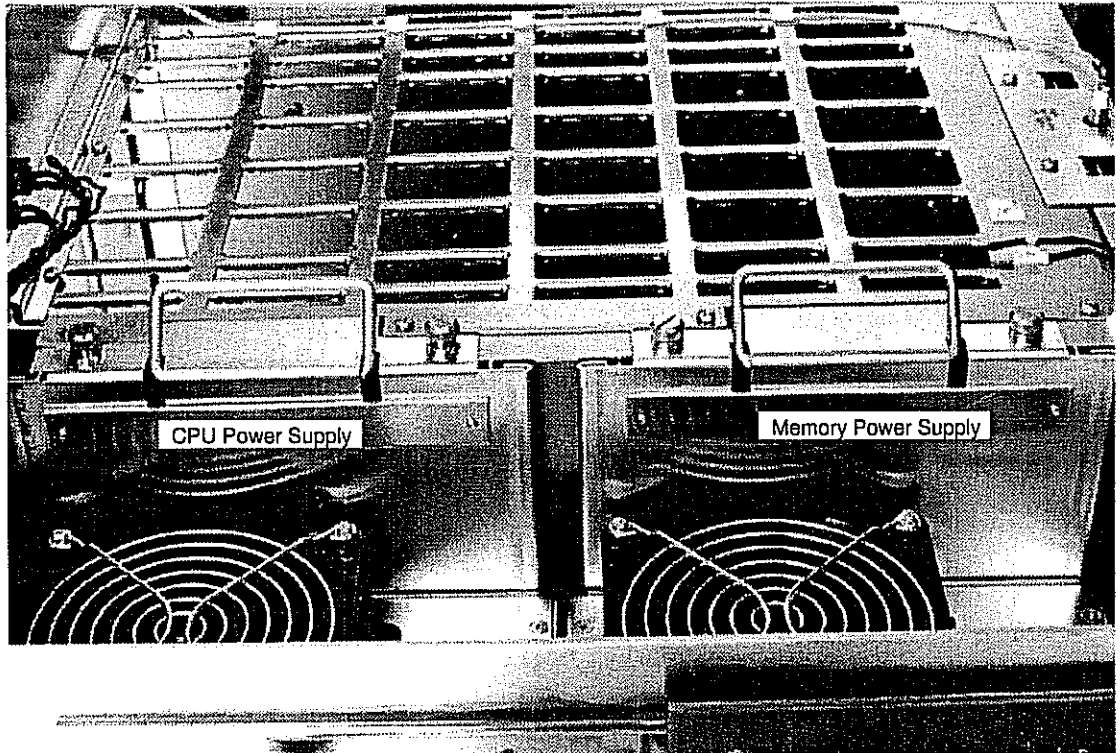

Figure 7-22. CPU and Memory Power Supplies - Top View
7. Loosen, but do not remove, the two screws that secure the power supply to the frame at the top of the power supply. Refer to Figure 7-22.
8. Grasp the power supply handle and carefully pull up and away from the card cage. Refer to Figure 7-22.